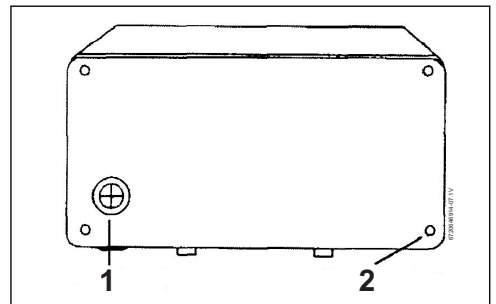

Fig. 6 Back of unit
- If it is going through the back of the cover unit, cut through the grommet on the backplate with a sharp knife. Make sure that you do not remove the grommet from the backplate (Fig. 6 ):